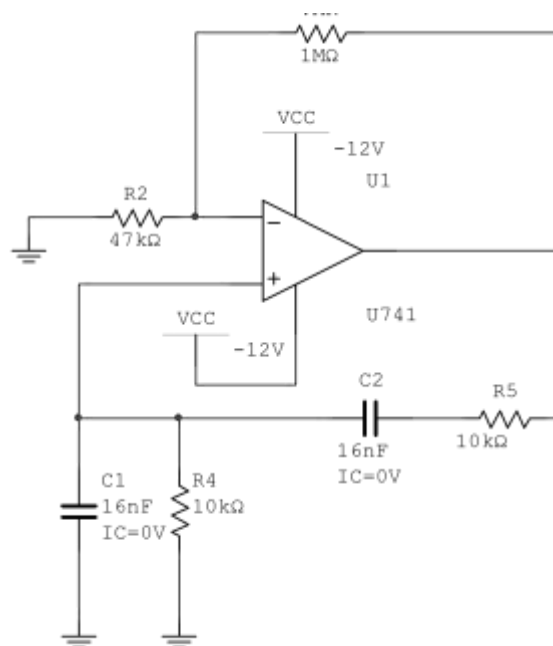

Figure 2.1: Wien Bridge Oscillator Circuit
- Connect the circuit as shown in Fig.2.1 by using the 741 datasheet in Fig. 2.2.